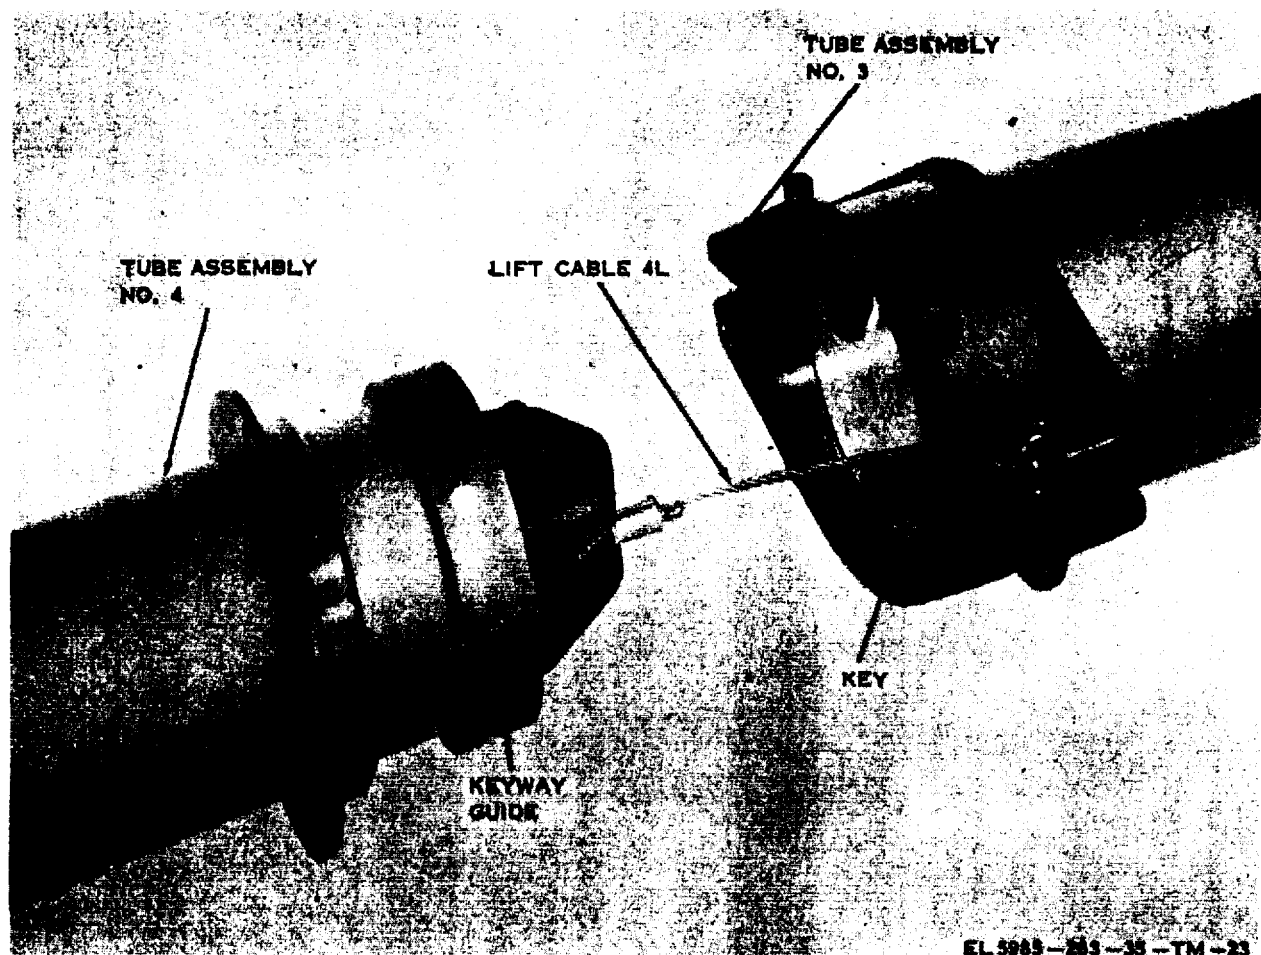

Figure 7-8. Tube assemblies Nos. 3 and 4 ready for assembly.
(5) Inspect all tube assemblies; cracks or dents should not be evident. Inspect the keyway; a typical keyway is shown in figure 7-8. The run of the keyway must be straight and show no signs of stress or unevenness. There must be no dirt, paint, or lubricant along the surface of each tube assembly where the outer surface of the tube rides against the inner surface of the next largest tube.
(b) Tape the cable to the stiff wire. Pull the soldered end (fig. 7-5) through the hole, laying the tubes end to end as shown in figure 7-8.
(7) Join the tube assemblies as shown in figure 7-8. Start assembly with smallest diameter tube assembly. Insure that the guide key fits evenly into the keyway. It may be necessary to raise the rear end of the smallest diameter tube assembly so that it slides easily into the larger diameter tube assembly.
(8) As the tube assemblies are connected, thread the lift (up) cables through the hole in the outermost (larger diameter tube), and the lowering (down) cables over the pulleys.